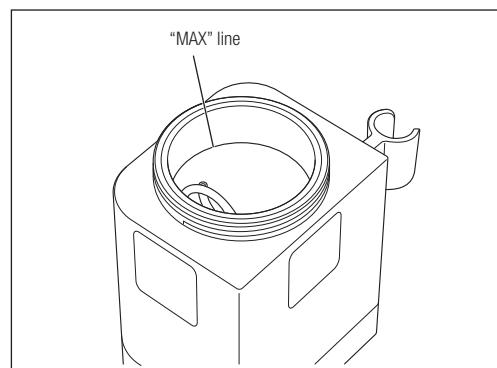

Fig. 23
- 1) Select the Chamber and powder to be used with this Mode. Fill the Chamber with powder up to the "MAX" line (approximately 80g of FLASH pearl or approximately 50g of Perio-Mate powder) (Fig. 23).